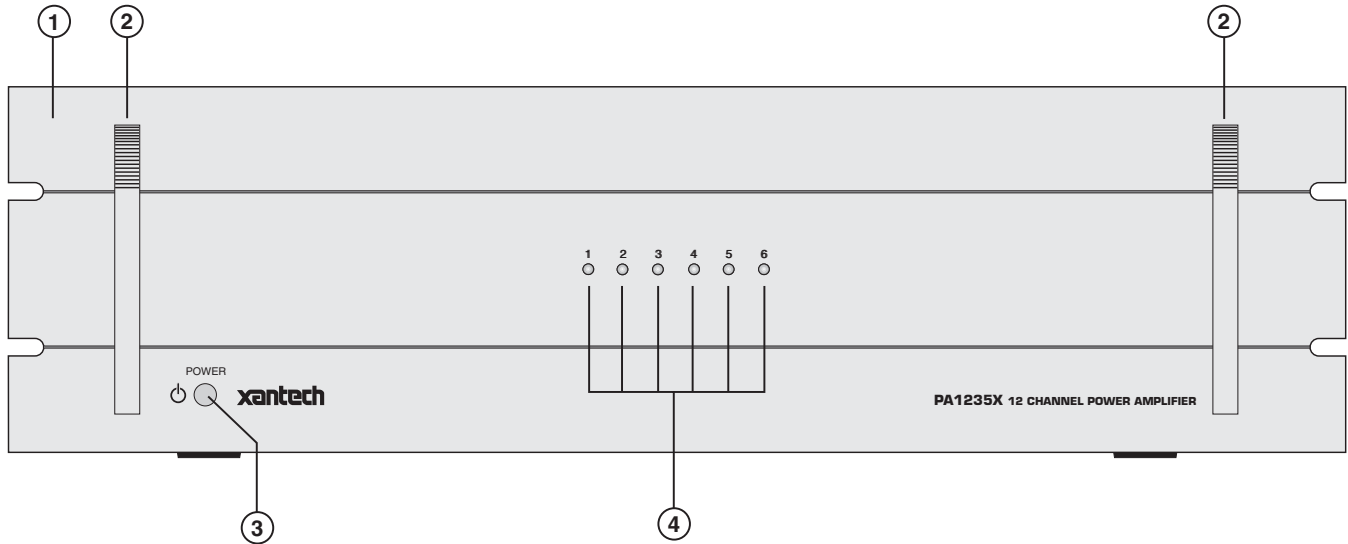

Figure 2 – The Model PA1235X Front Panel – Features and Functions
PA1235X does not turn OFF when REMOTE input voltage goes to 0 Volts.	Be sure that the POWER switch (item 3, Fig. 2) is set to the MANUAL OFF (REMOTE ON/OFF) position.
PA1235X becomes very warm, shuts OFF, but does not come back ON automatically.	Set POWER switch (item 3, Fig. 2) to MANUAL OFF (OUT) position for 15 seconds, then back ON. If REMOTE ON/OFF jack is used, unplug for 15 seconds, then re-plug.